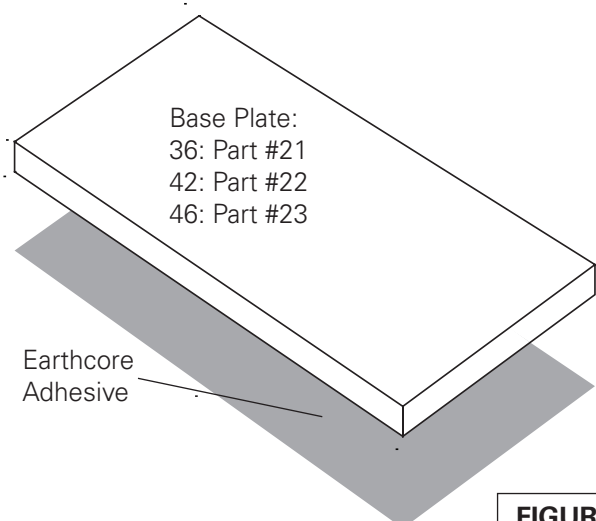

FIGURE 17
1. Set the base plates in a full bed of Earthcore Adhesive on a level support surface. See page 22 for supporting floor system. (**Figure 17**). Do not set the base plate so that it is in span.